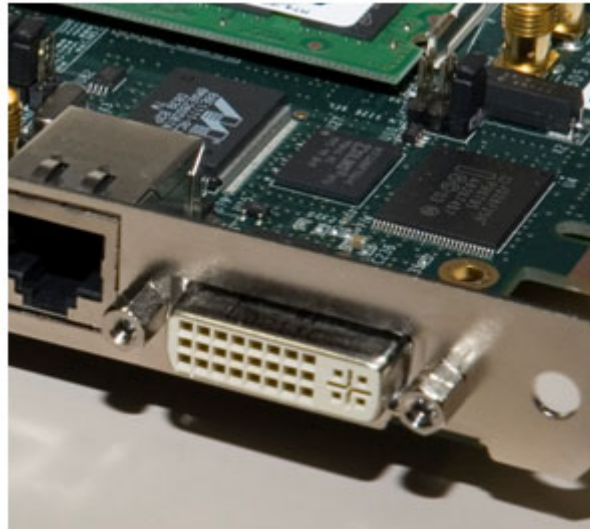

Figure 1-25: ML605 DVI Connector
22. Connect a DVI monitor to the ML605 board using the connector shown in Figure 1-25. The DVI/VGA adapter provided in the ML605 Evaluation Kit can be used to connect a VGA monitor.